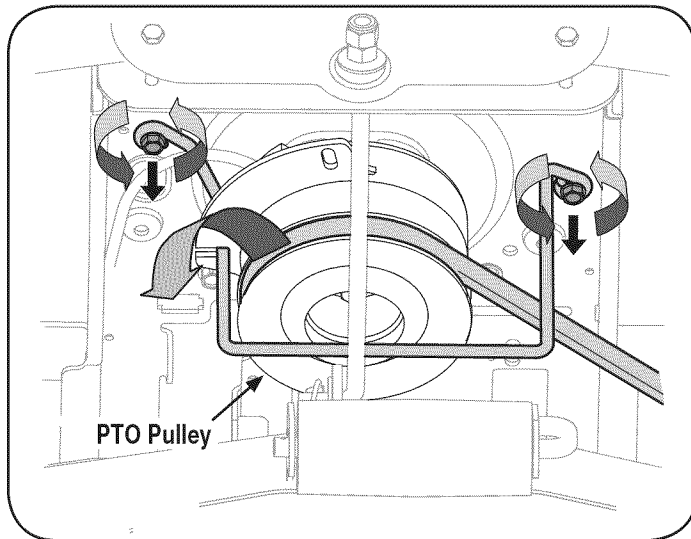
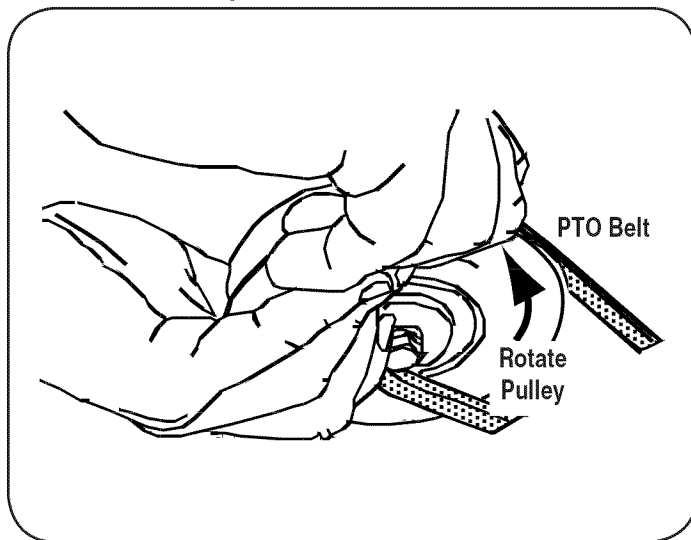

Figure 10
Figure 17
3. Locate the PTO clutch under the front of your tractor. See Figure 10.
4. Remove the belt guard and belt from the PTO pulley as follows. Refer to Figure 10:
11. Pull the right side of the belt and place the narrow V side of the belt into the PTO pulley. See Figure 10 in CUTTING DECK REMOVAL and Figure 17 below.
12. While holding the belt and pulley together, rotate the pulley to the left (See Figure 17). Continue holding and rotating the pulley and belt until the belt is fully rolled into the PTO pulley.
NOTE: Insert the belt guard into the belt guard slot of the PTO pulley. See Figure 10.